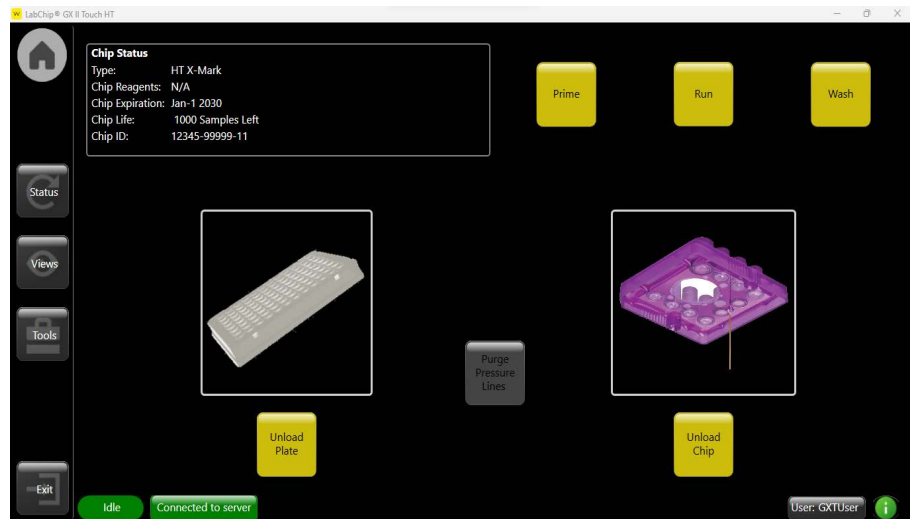
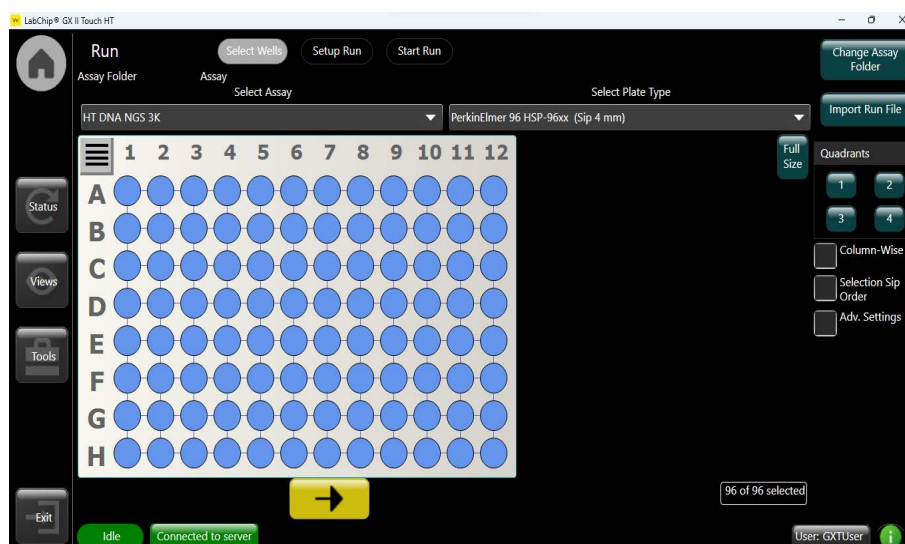

Figure 7. Home Window
Figure 11. Select Wells Tab
- 1 Touch the **Run** button on the **Home** window (see Figure 7 on page 15). The **Select Wells** tab opens (see Figure 11).